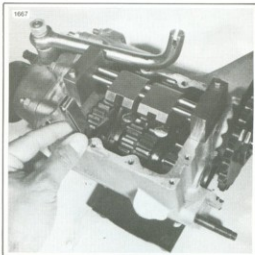

Figure 7-21. Installing Gauge on Drum Shifter Transmission
4. See Figure 7-21. Remove the gauge from the cover, turn it over and place it on the transmission case as shown. Make sure the shifter forks register in the gauge blocks.
2. Check clearances with a feeler gauge as shown in Figures 7-21 and 7-24.